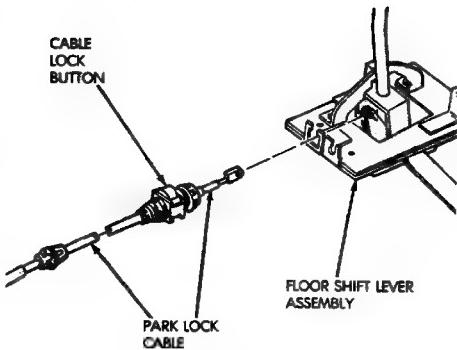

Fig. 48 Park Lock Cable
(2) Turn ignition switch to Lock position.
(3) Remove shift lever bezel and console screws. Raise bezel and console for access to cable.
(4) Pull cable lock button up to release cable (Fig. 48).
(5) Pull cable forward. Then release cable and press cable lock button down until it snaps in place.
(6) Check adjustment as follows: